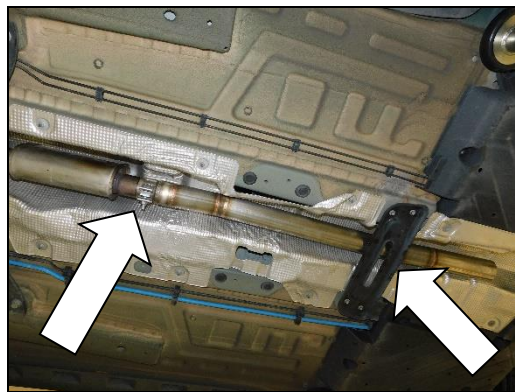

Figure 8
- Remove the tape and deburr the OE exhaust tube. Slide on (x1) supplied 2 ¼" band clamp and install the Blackheart front pipe on to the OE exhaust tube. Now, install the cross brace (**Figure 8**).